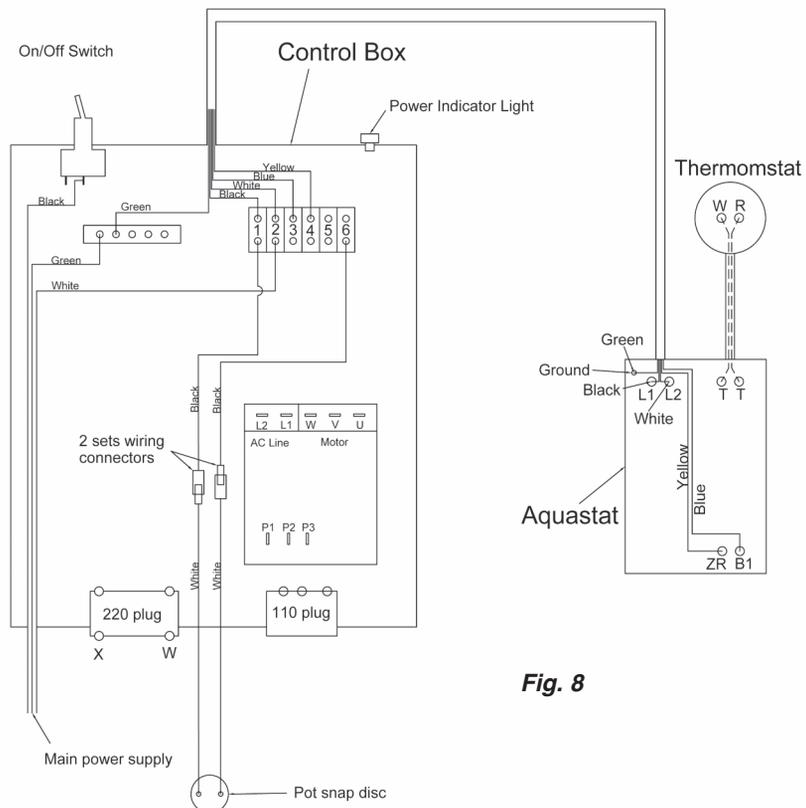

Fig. 8
- 20 - Have a licensed electrician connect all your wiring. Make sure all power is disconnected from boiler before opening control box. Connect aquastat and snap disc wiring to control box as shown in wiring diagram. See Fig. 8.